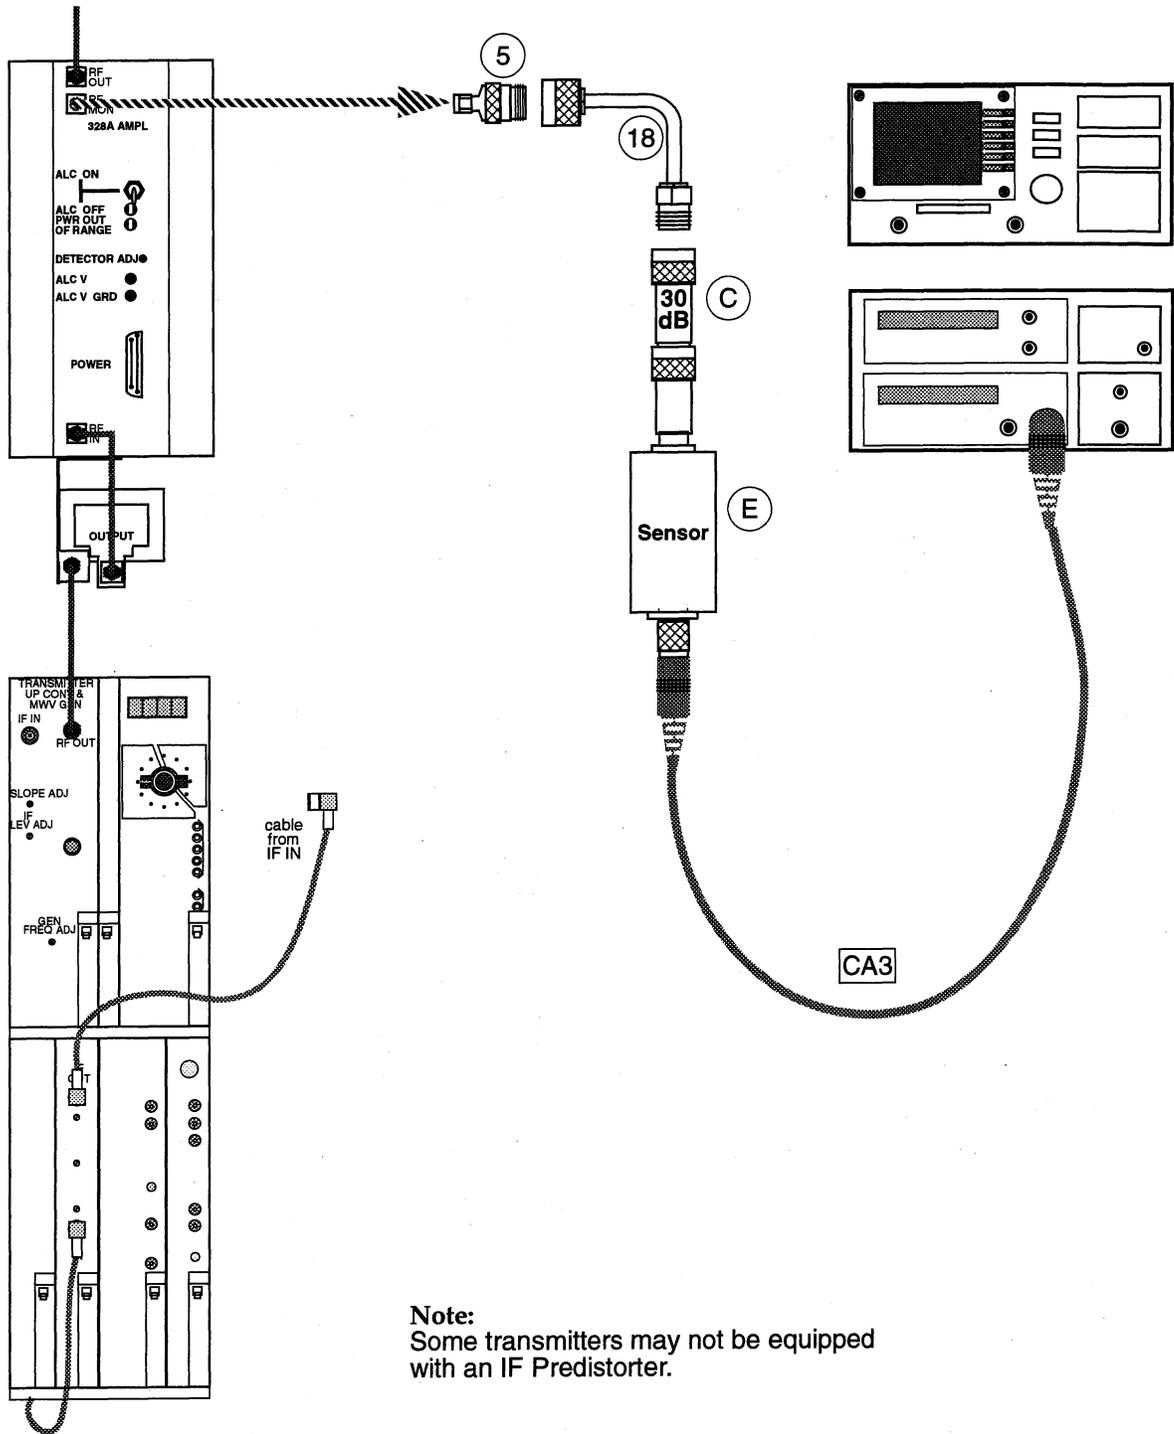

Figure 34. RF MON Power Measurement—Solid State
- 10 Connect the test equipment as shown in Figure 34.